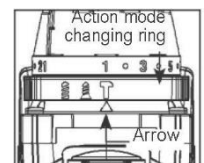

Fig. 15
2. Turn the action mode changing ring so that the arrow on the tool body points to the "T" marking. (Fig. 15)